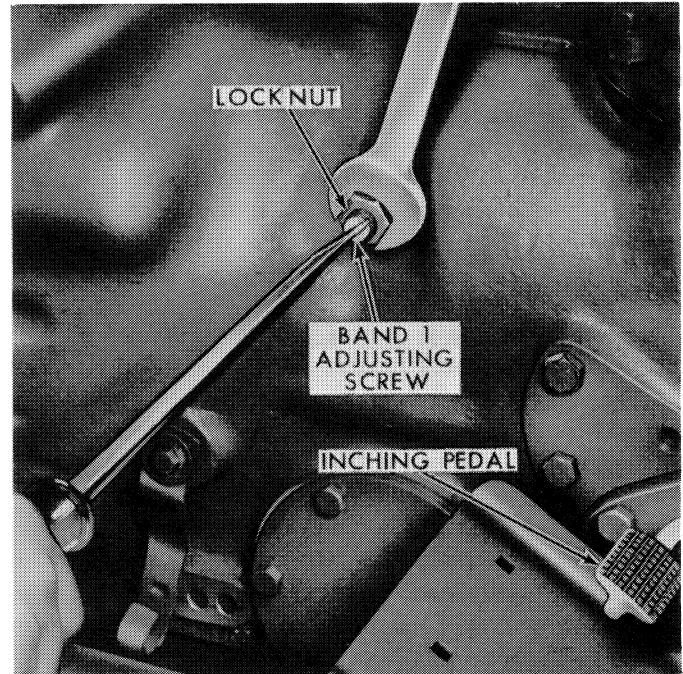

Figure 21
3. Refer to the chart and move the gear selector lever to apply the band. Hold the band adjusting screw as shown in Figure 21, and loosen the lock nut two full turns.